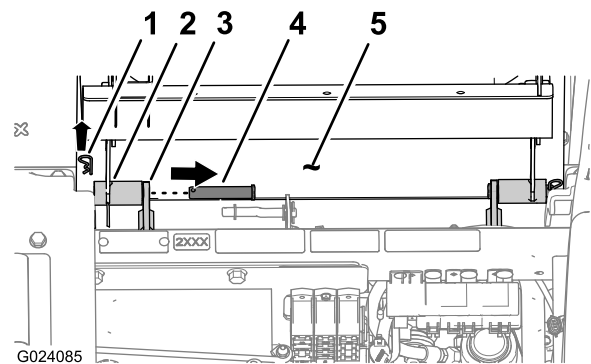

Figure 63
- Insert the 2 pivot pins that secure the seat and seat pan to the chassis (Figure 63).
- Insert the 2 hairpins that secure the pivot fitting of the seat pan to the chassis brackets (Figure 63).